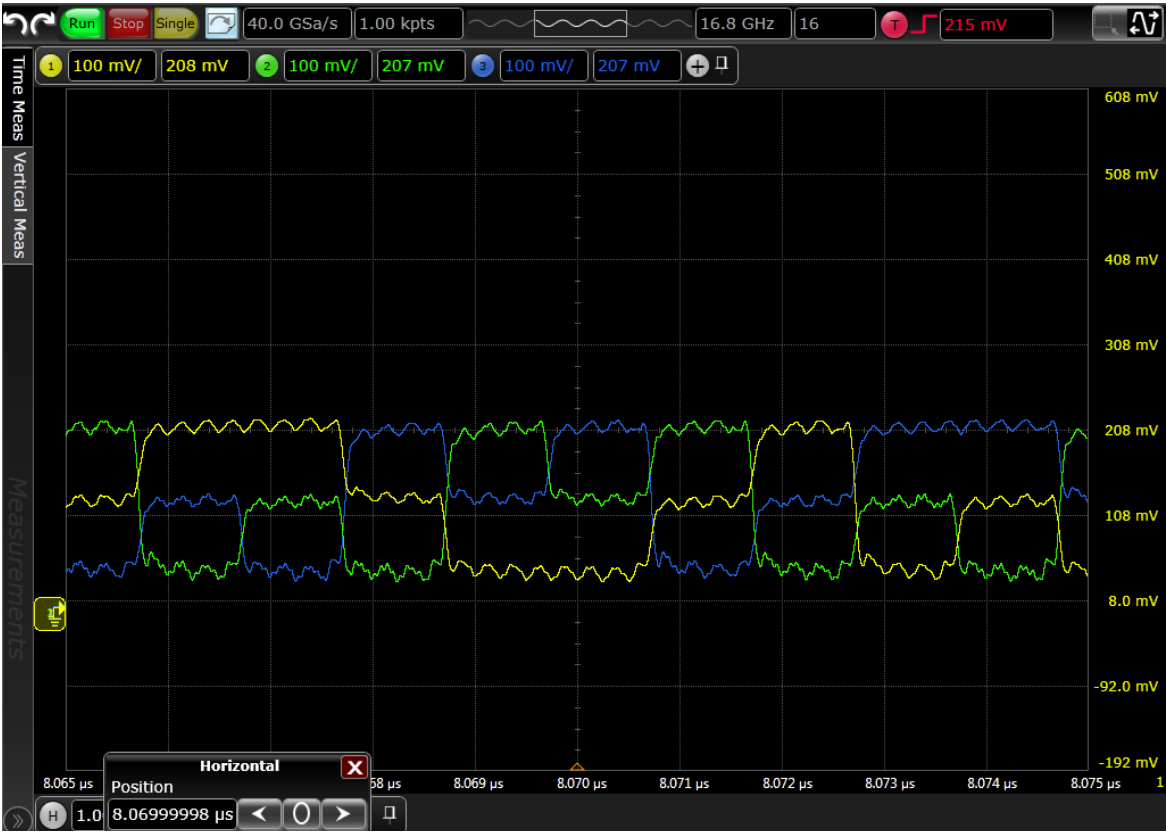

Figure 4 Common mode interference on high speed
All the images (Figure 4 to Figure 7) of hysteresis show the single ended signal of wire A (channel 1 shown by yellow), wire B (channel 2 shown by green), and wire C (channel 3 shown by blue).
- 1 Figure 4 shows the common mode interference with high speed switching rate of 1 Gbps and the frequency 4 GHz.